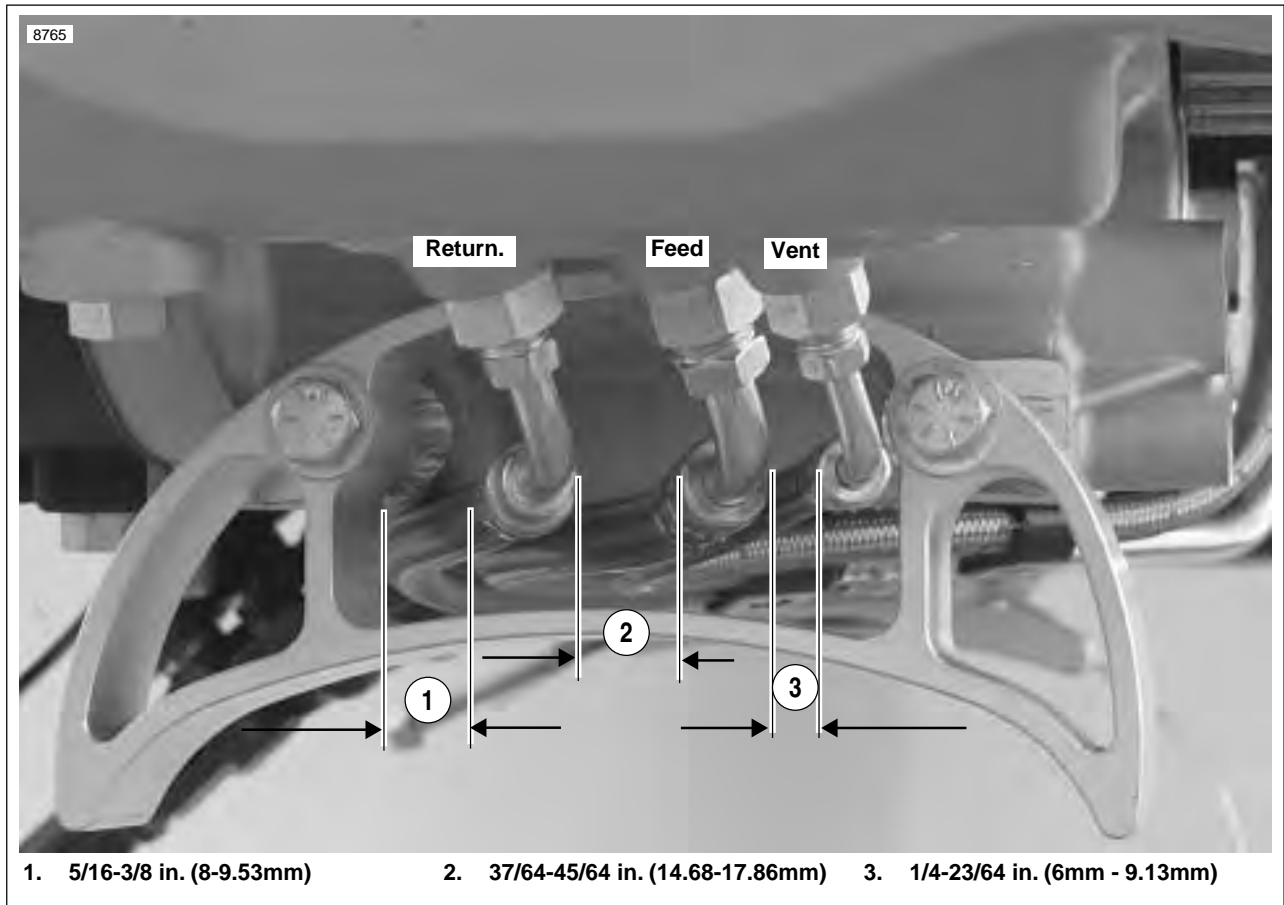

Figure 3-48. Oil Line Clearances
20. See Figure 3-48. Install the return, feed and vent oil lines starting at the swingarm/oil reservoir and working towards the front of the vehicle. Leave all oil line fittings loose at this time.
21. See Figure 3-48. Tighten the return oil line first making sure to maintain the proper clearance between the oil line and the rear muffer bracket. 23-25 ft-lbs (31.2-33.9 Nm).